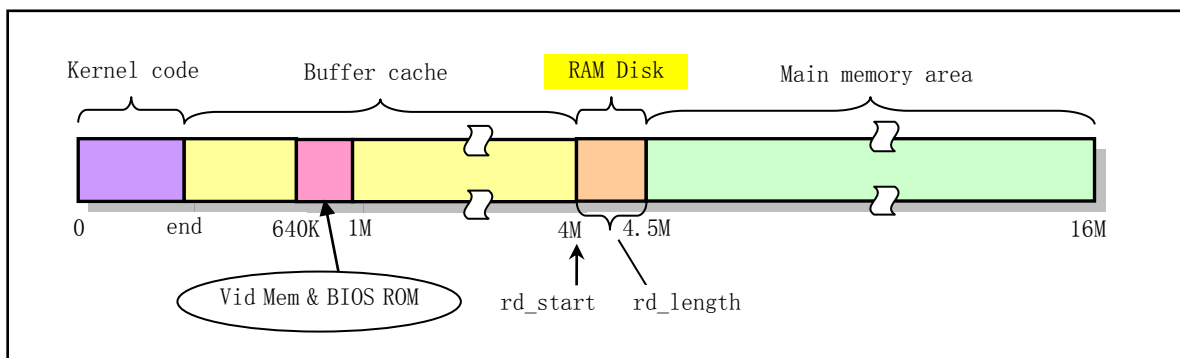

Figure 9-6 The specific location of the ram disk in the 16MB memory system
When the symbol RAMDISK is defined in the linux/Makefile, the kernel initializer draws a memory area of a specified size in memory for the virtual disk data. The virtual ram disk capacity is equal to the value of RAMDISK (KB). If RAMDISK=512, the virtual disk size is 512KB. The specific location of the virtual disk in physical memory is determined during the kernel initialization phase (init/main.c, line 150), which is located between the kernel cache and the main memory area. If the running machine contains 16MB of physical memory, the kernel code will set the virtual ram disk area at the beginning of 4MB of memory. At this time, the memory allocation is shown in Figure 9-6.